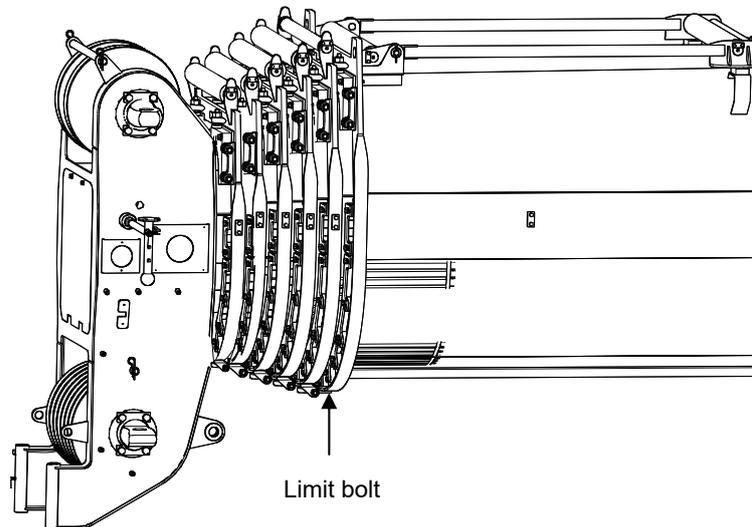

Figure 5-3 Limit bolt adjustment
- e) Adjust the limit bolt under the main boom head (viewed from travelling direction) till the clearance between the end surface of limit bolt and the baffle at the boom head is between 1 - 2 mm. After that, tighten the locking nut. Refer to Figure 5-3.